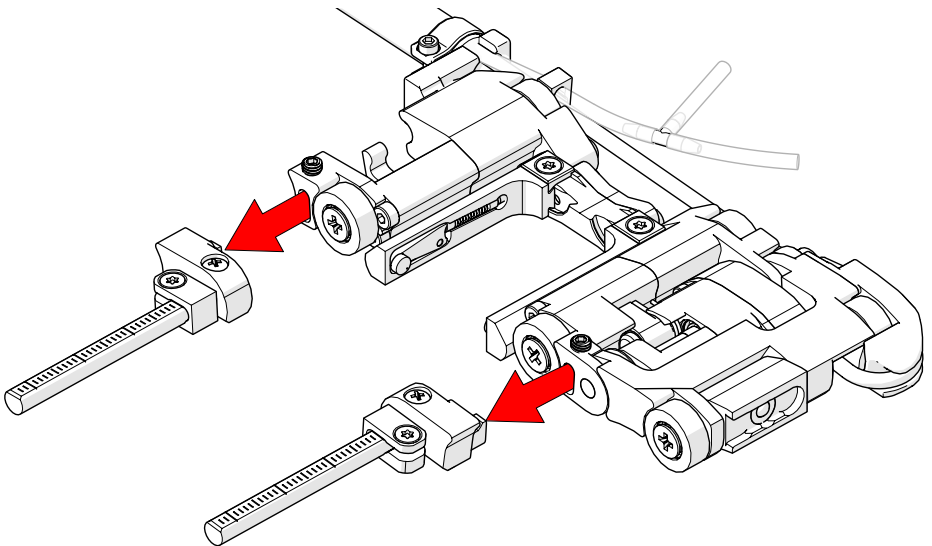

Fig. 82 - Remove crossbar assemblies
4. Remove the crossbar assemblies from the scanner single side (Fig. 82).